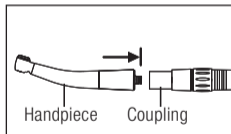

Fig. 2
- ① Insert the handpiece into the coupling (Fig. 2).